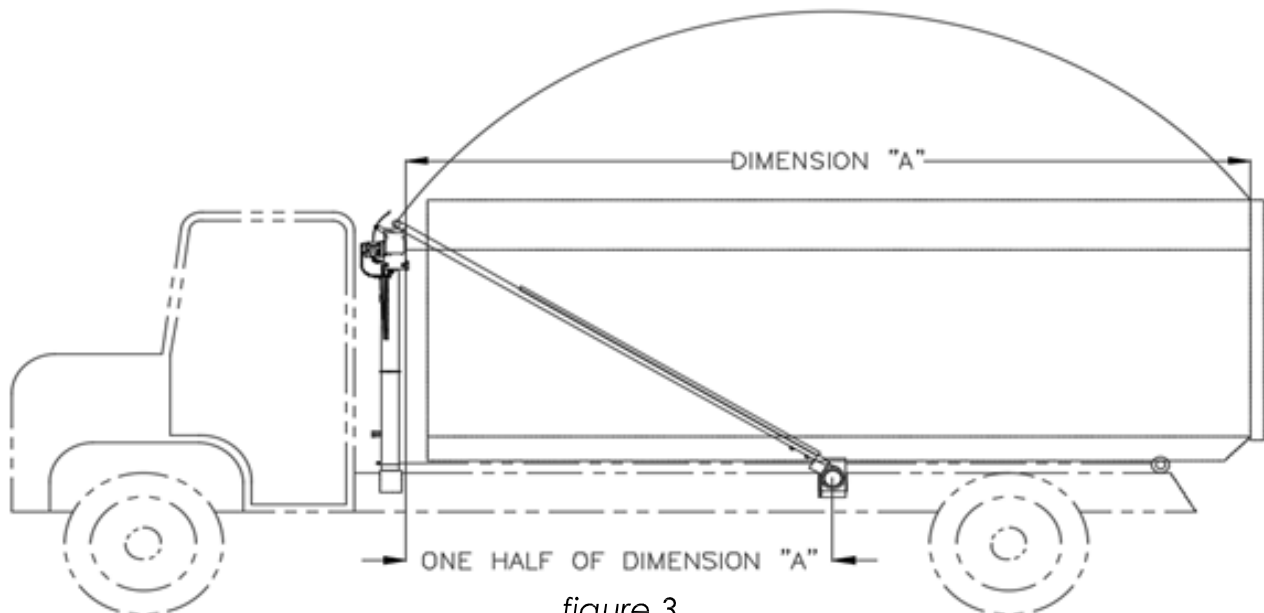

figure 3
- B. Measure the distance from the back side of the tarp roller to the front side of the rear door on the container (Dimension "A"). Dividing this measurement in half will give you a starting point for locating the Arm Mounting Brackets (G1530). See *figure 3* for reference.